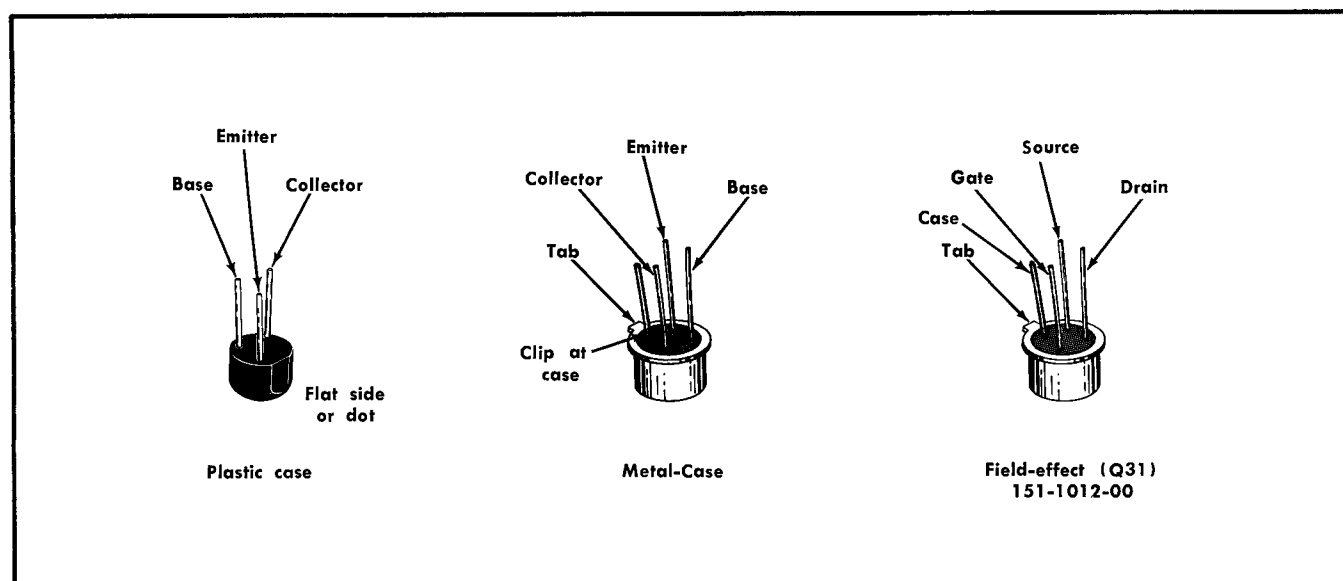

Fig. 4-1. Lead configuration for board-mounted transistors.
**Transistor Replacement.** Cut the leads of a replacement transistor to the same length as the transistor removed and bend the leads as necessary. The lead configurations of the transistors used in the Type S-1 are shown in Fig. 4-1. Two transistors, Q13 and Q17, have soldered leads and are soldered to the circuit board. The field-effect transistor mounting has an arrow at the top position.